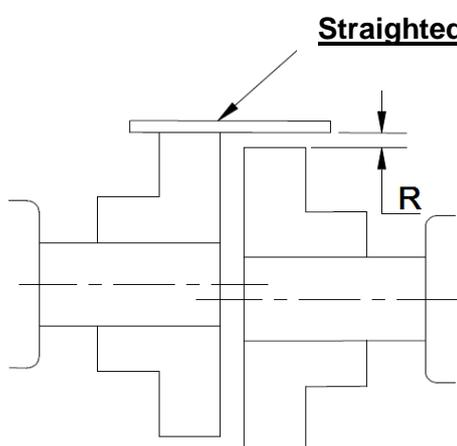

Figure 7.2: Measurement with a straightedge
The maximum permissible misalignment values (table 7.1) must be adhered to and may not occur at the same time. In the event of the simultaneous occurrence of radial and angular offset, misalignments need to be exploited differently percentage-wise (see figure 7.2). If not observed, damage to the coupling may result.
Take a straightedge and place it onto the hub (item 1) as displayed in figure 7.2. With couplings REK...DHO and REK...DGZ, turn the other hub (item 2) until distance $R = 0$ is achieved. With coupling REK..DGO, the position where $R=0$ needs to be found through multiple application of the straightedge. Taking this point as a basis, measure at an approx. 90° offset with a feeler gauge distance "R". To be sure, distance R can be measured again at another approx. 180° . It can also be carried out in a similar manner with a depth gauge. The largest measured distance indicates the given radial misalignment.